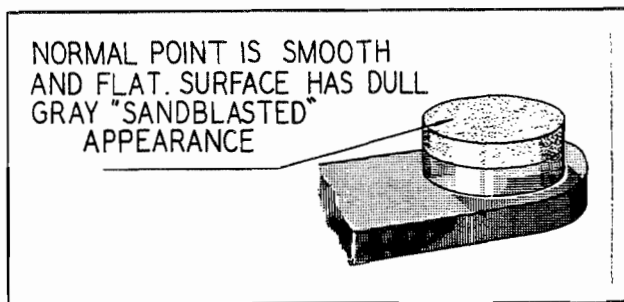
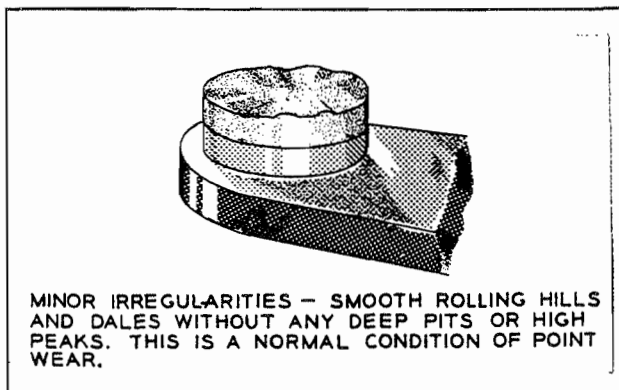
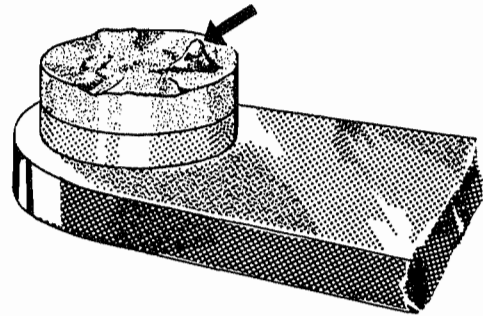

Figure 602. Normal Contact Point
Figure 603. Point with Minor Irregularities, Contact Assembly (30) Usable
Figure 604. Point with Well Defined Mound. Replace Contact Assembly (30)
- C. Examine contact points for excessive wear or burning. Contact assemblies (30) with points which are deeply pitted or burned must be discarded. Figure 602 shows how the average contact point will look when surfaces are separated for inspection. Desired contact surfaces have a dull gray, sandblasted (almost rough) or frosted appearance, over the area where electrical contact is made. This means that points are worn in and mated to each other, thereby providing the best possible electrical contact and highest efficiency of performance. Minor irregularities or roughness of point surfaces are not harmful (see Figure 603), and neither are small pits or mounds, if not too pronounced. If there is a possibility of pit becoming deep enough to penetrate pad (Figure 604), reject contact assembly.